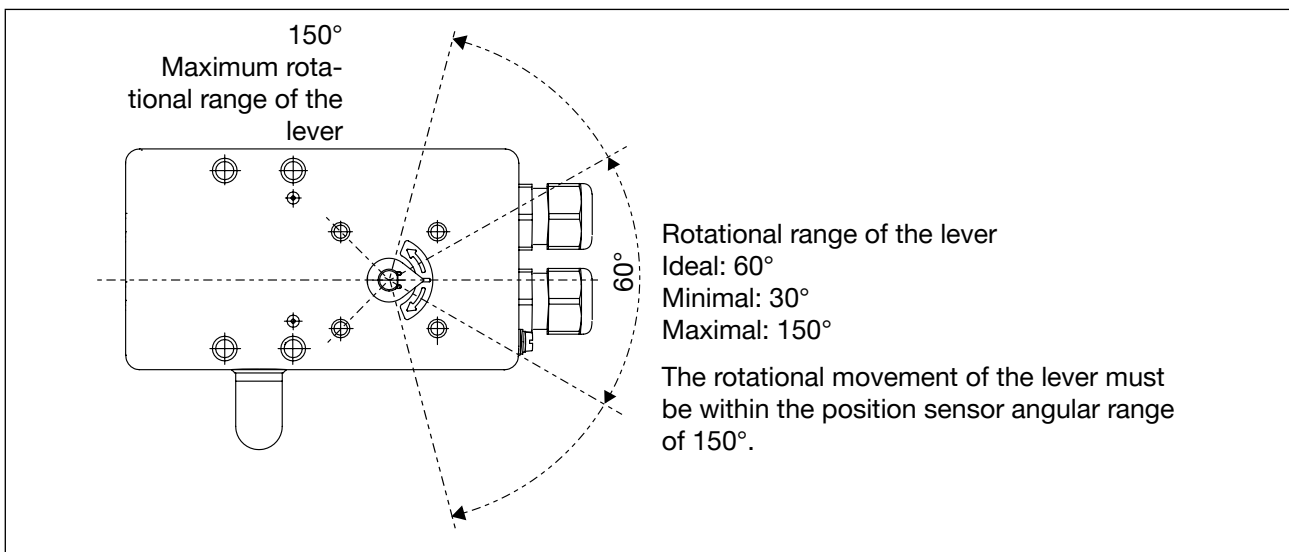

Fig. 14: Angular range of the lever
**!** The gap between the driver pin and the shaft should be the same as the actuator stroke. As a result, the lever has an angular range of 60°. (see "Fig. 14").